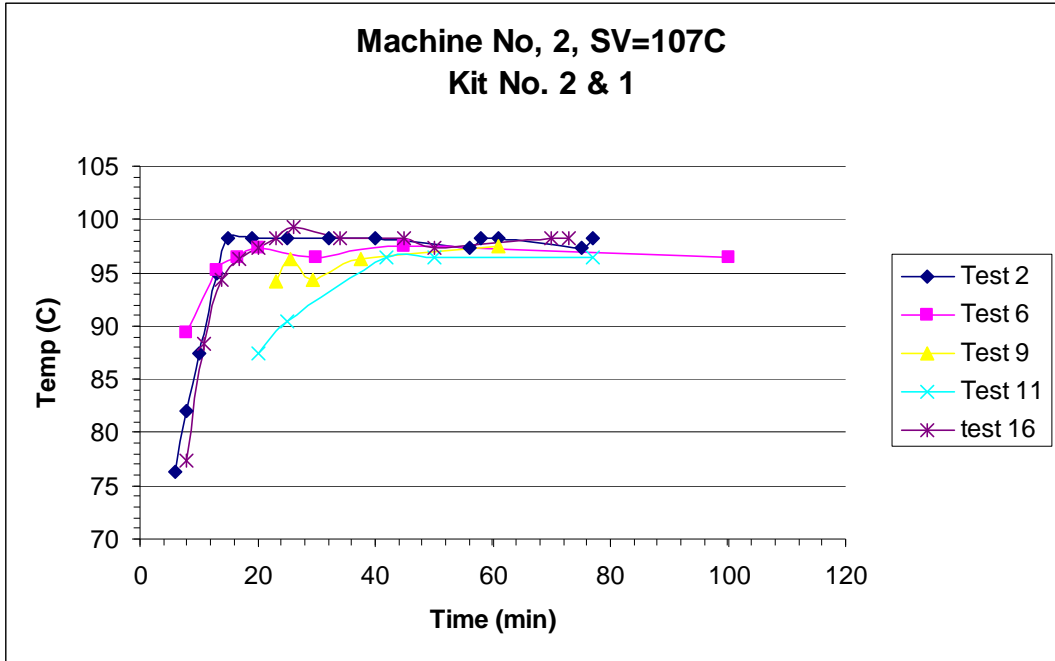
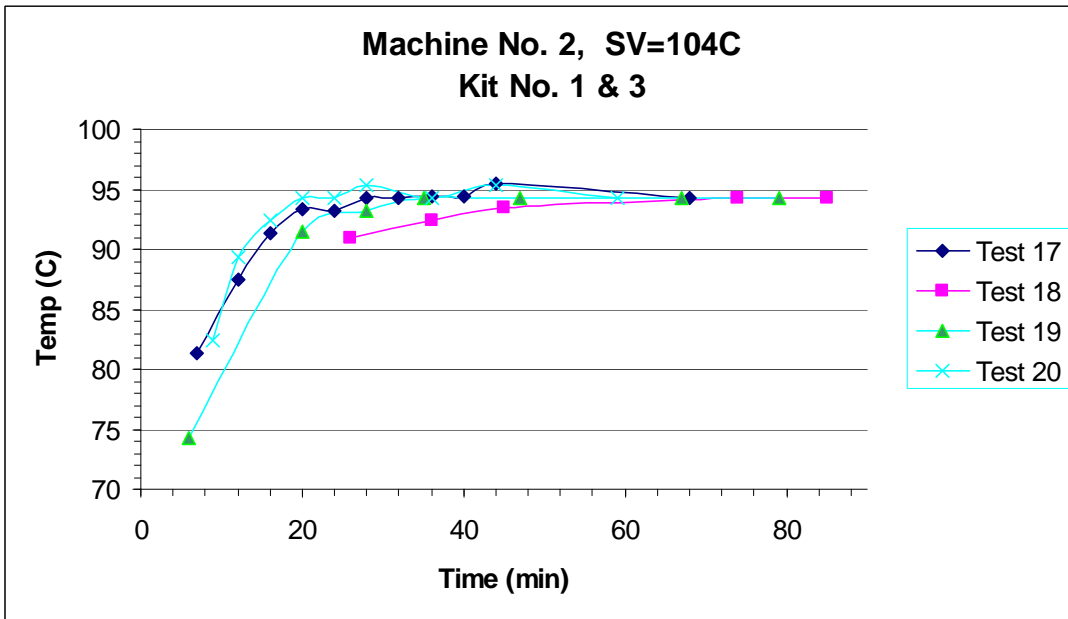

Figure 4. Test 11 and 16 was controlled by Kit No.1. The rest were controlled by Kit No. 2.
Figure 5. Test 20 was controlled by Kit No. 3. The rest were controlled by Kit No. 1. For test 19, the first point is a 150 ml (5 oz) pump (60 seconds).
- 6) Test 19 in Figure 5 took the least pumping effort to stabilize the Tb in a relatively short time. In this test, 150 ml (5 fl oz) of water was pumped at 6 minutes after power up. Then, another 60 ml (2 fl oz) flush at 20 minutes. The Tb stabilized at 28 minutes.
- 8) Tests 2, 6 and 16 in Figure 4 rose much faster than the rest of the tests. We believe the reason might be due to very high SV of the controller and slightly higher room temperature during the test. The T_b at the beginning of the test is near the boiling temperature of water. When we reduced the SV to 104°C (figure 5) the rising phase slowed down.
Figure 9. Waveform difference between a dry Thermofilter and a wet Themofilter that contains the water from previous shot. These are the two last data point of “Test 18” in the Fig 5. We would get different values for Fig 5 if we used average temperature instead of the peak temperature.